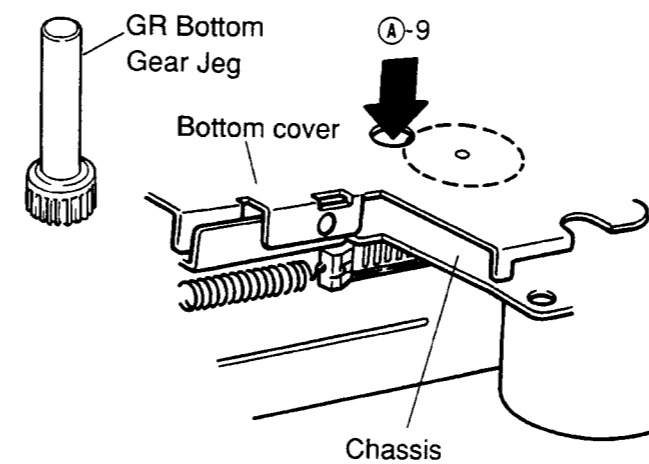

Figure 4
- (12) Since the hooks marked ①-A-8 will be lifted slightly as shown in Figure 4, insert the jig through the hole ①-A-9, and fix it turning the jig slightly in the direction ①-A-11.
(Refer to Figures 4 and 5.)
Instead of operation (14), the eject operation can be performed by mounting the mechanism to the product. (Refer to Figures 4 and 5.)